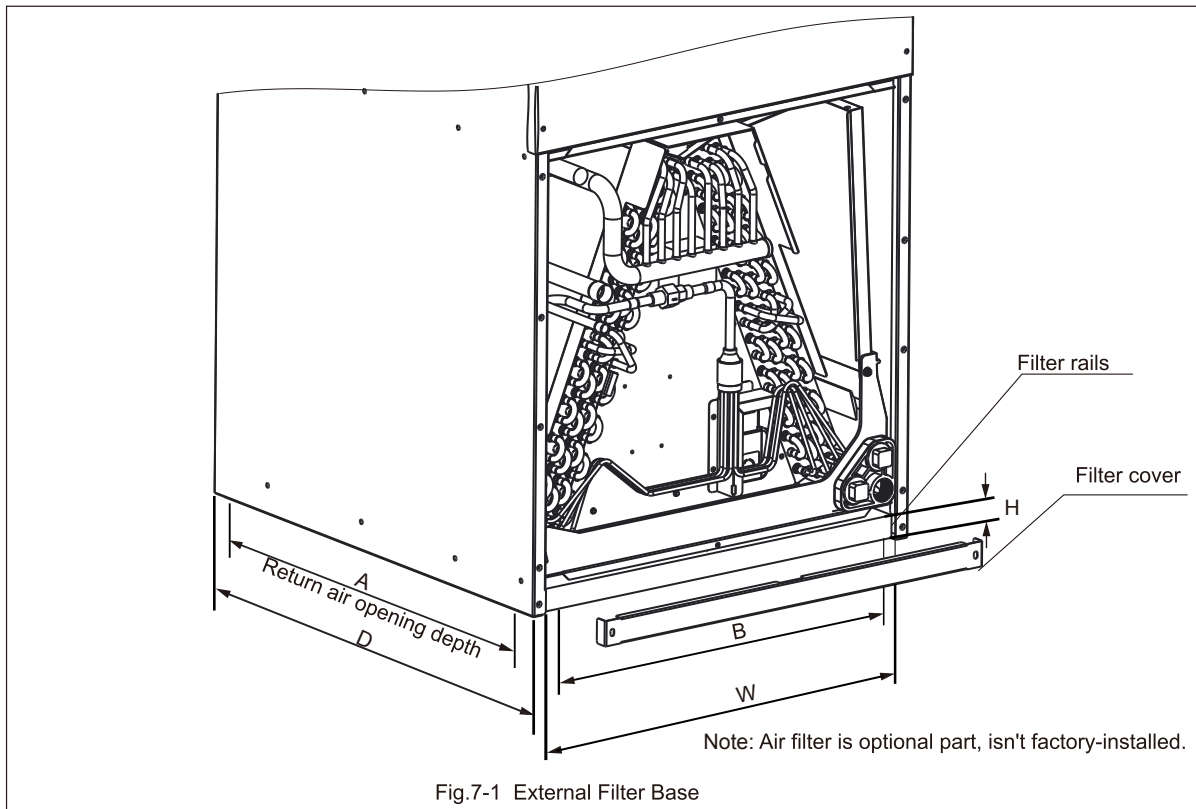

Fig.7-1 External Filter Base
1. Remove bolts manually, remove air filter recover. See in Fig.7-1.